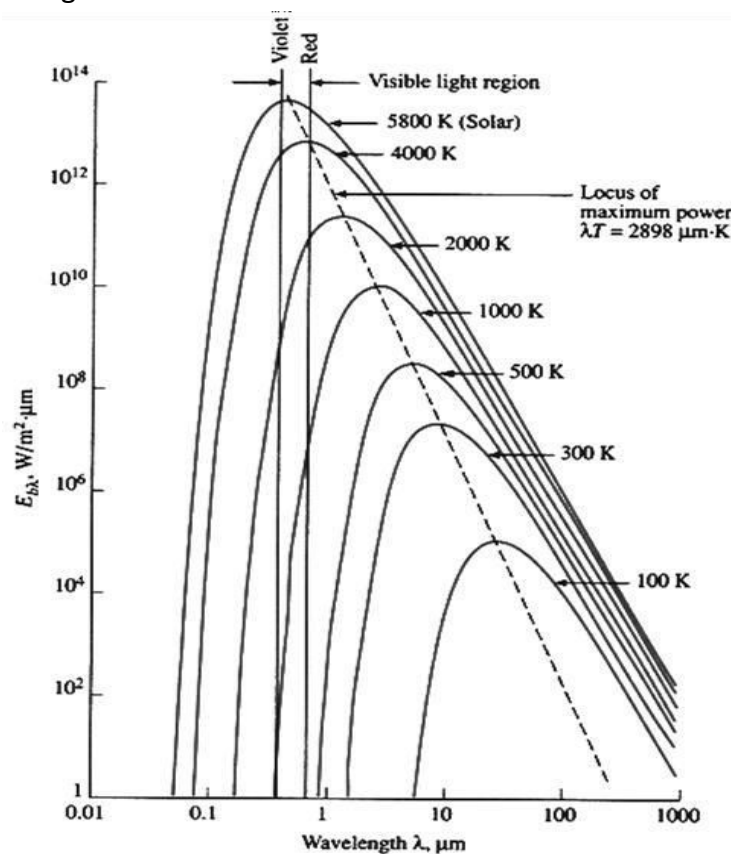

Fig. 5.9 Radiation of black body as a function of wavelength and temperature
- The variation of distribution of the monochromatic emissive power with wavelength is called spectral energy distribution, and this has been shown in figure 5.9
- Figure 5.9 shows that as the temperature increases the peaks of the curve also increases and it shift towards the shorter wavelength.